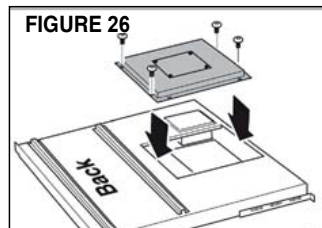

FIGURE 26
- The cover plate is installed onto the housing on the opposite side of the connection plate (FIGURE 26)